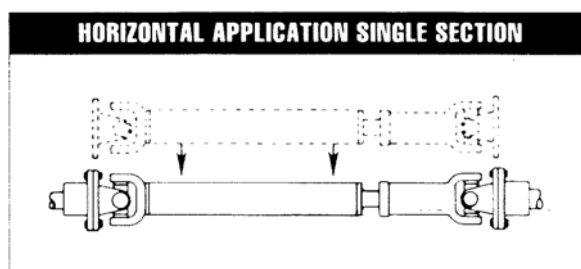

Figure 4
2.1.3 Compress driveshaft and place into position between mating flanges (see Figure 4). Large universal joint shaft assemblies are very heavy, use proper lifting equipment during installation. Carefully align pilot bore boss into/onto companion flange mating diameter. Align bolt holes on driveshaft flange with holes on companion flange. Secure flange to driveshaft with proper hardware. Extend shaft at slip section until pilot bore boss aligns with companion flange pilot bore boss. Align holes and secure flange.